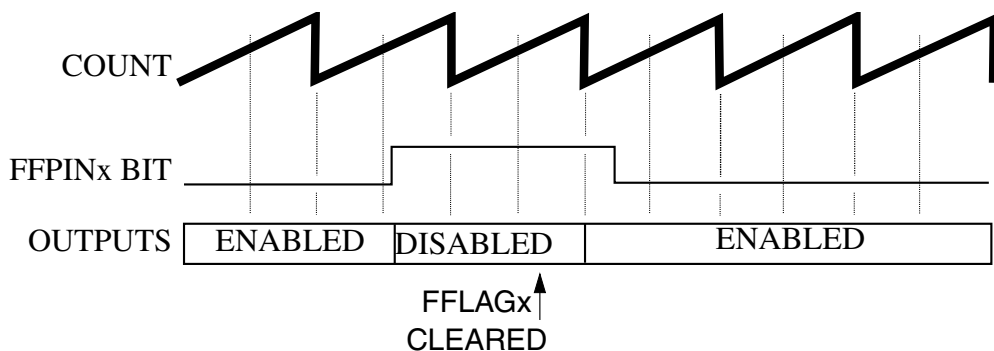

Figure 27-30. Manual fault clearing (FCTRL[FSAFEx] = 0, FSTS[FFULLx] = 1)
- The pins are enabled when the next PWM full or half cycle begins regardless of the logic level detected by the filter at the `FAULTx` pin, as shown in Figure 27-30. If `FSTS[FFULLx]` is set, then the disabled PWM pins are enabled at the start of a full cycle. If `FSTS[FHALFx]` is set, then the disabled PWM pins are enabled at the start of a half cycle.